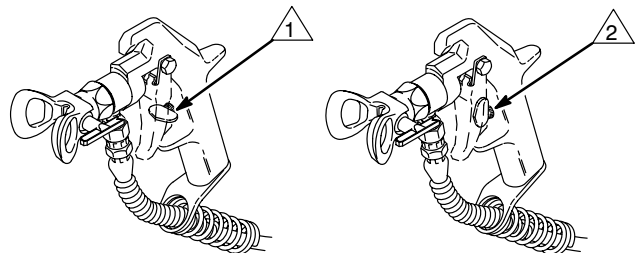

Fig. 2
- a. Open the pressure drain valve (44). Turn on the sprayer switch (105a). Slowly turn the pressure adjusting knob (A) clockwise until the sprayer starts. When fluid comes from the valve close it.
- b. Disengage the trigger safety latch. See Fig. 2. Holding a metal part of the gun firmly against a grounded metal pail, trigger the gun until all air is forced out of the system and the paint flows freely from the gun.